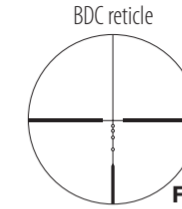
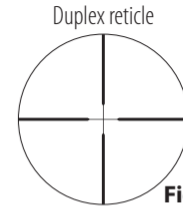
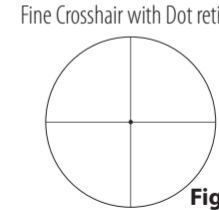
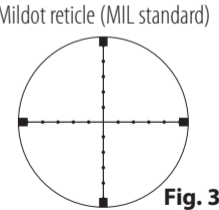

Fig. 3-4
Fig. 3-5
Fig. 3-6
Fig. 3-7
(2) Focusing
- ① Look through the eyepiece with your eye positioned about 10 cm (4 in) away from the eyepiece to see the BDC reticle (Fig. 3-4), the Duplex reticle (Fig. 3-5), the Fine Crosshair w/Dot reticle (Fig. 3-6), or the Mildot reticle (MIL standard) (Fig. 3-7). Be sure your eye is positioned with proper alignment and with proper eye relief, otherwise the view will “black out.”
- ② Point the objective end of the scope at the sky (NOT point it at the sun) or at a plain unpatterned wall.
- ③ Turn the eyepiece adjustment counter-clockwise and then turn it clockwise until the reticle appears sharp.
(3) Magnification
With the turret held with your fingers to avoid shifting of the aligned scale ring, turn the screw in the top of the turret counter-clockwise with the supplied hex key ① until the screw comes out. Then remove the turret (Fig. 3-5).